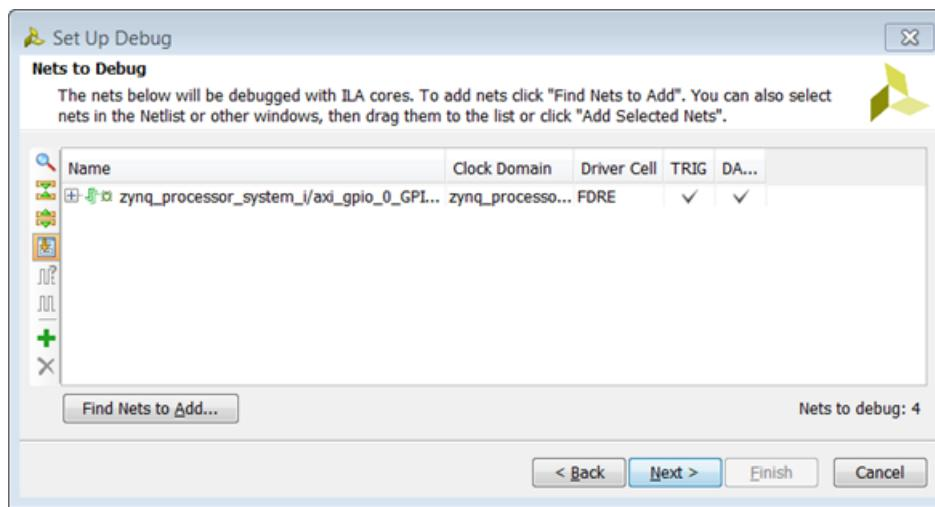

Figure 65: Add Nets to Debug
3. In the Nets to Debug page, select the nets that you are interested in monitoring from the list of nets offered, as shown in Figure 65.